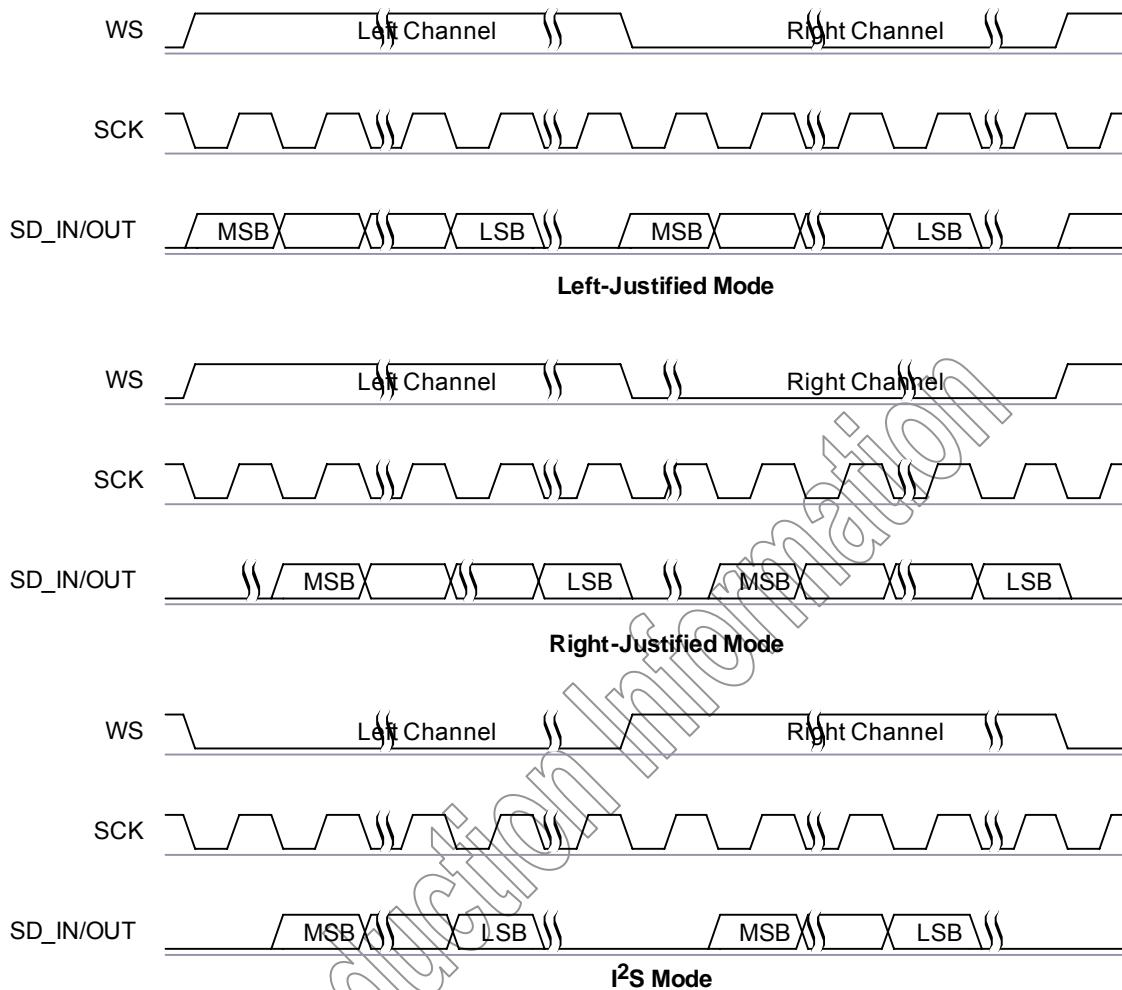

Figure 8.35: Digital Audio Interface Modes
The digital audio interface supports the industry standard formats for I²S, left-justified (LJ) or right-justified(RJ)⁽¹⁾. The interface shares the same pins as the PCM interface as shown in Table 6.1 and the timing diagram is shown in Figure 8.35.